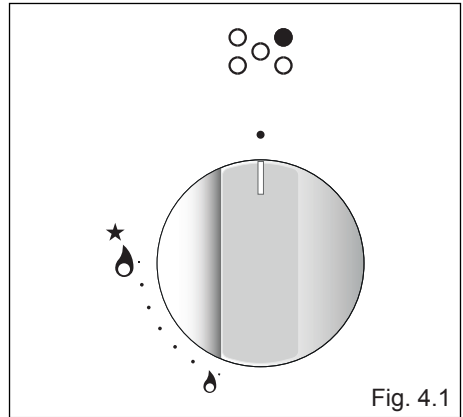
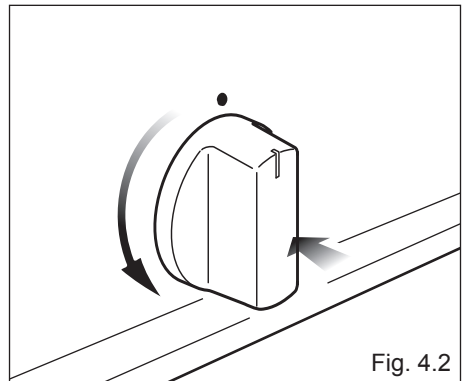

Fig. 4.1
Fig. 4.2
Gas flow to the burners is adjusted by turning the knobs (illustrated in fig. 4.1) which control the safety valves.
1. Press in the corresponding knob and turn counter-clockwise (fig. 4.2) to the  full flame position marked by the  symbol (fig. 4.1); hold the knob in until the flame has been lit.